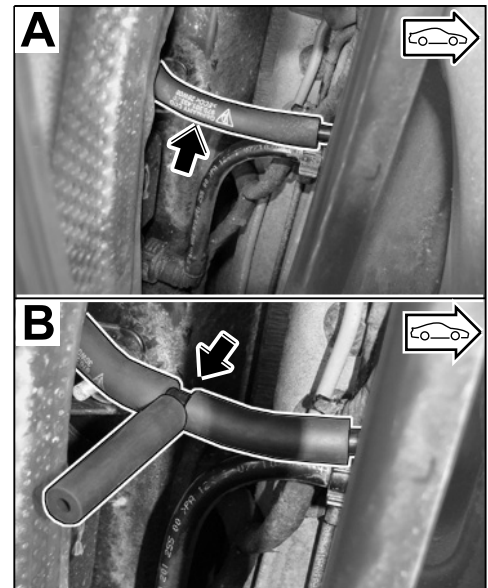

Figure 16
- 2.1.1 Remove standard line between carbon canister and ORVR line (⇒ *Figure 16 -A, arrow-*).
- 2.1.2 Install carbon canister hose (T-piece) between carbon canister and ORVR line (⇒ *Figure 16 -B, arrow-*).